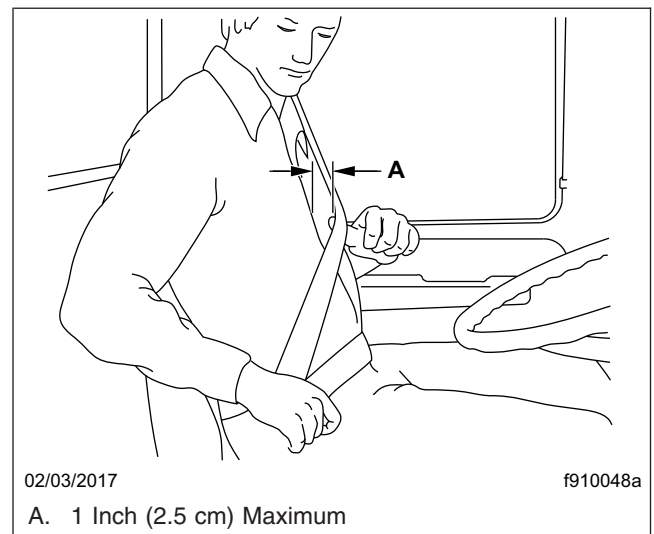
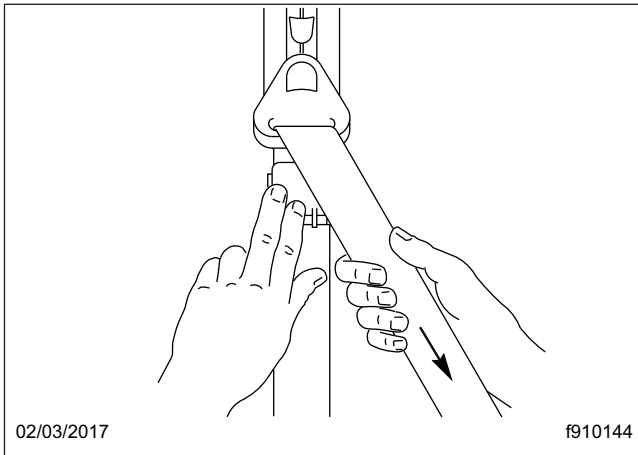

Fig. 5.32, Adjusting Shoulder Harness Clearance, Comfort Clip
Fig. 5.33, Locking the Comfort Clip
*If equipped with a comfort clip, pull on the shoulder strap to lessen the pressure of the strap on your shoulder and chest. Allow no more than 1 inch (2.5 cm) of slack between your chest and the shoulder harness. More slack can significantly reduce the seat belt effectiveness in an accident or a sudden stop. While holding the belt slack, press the comfort clip lever up, clamping the seat belt webbing as shown in **Fig. 5.32** and **Fig. 5.33**.*